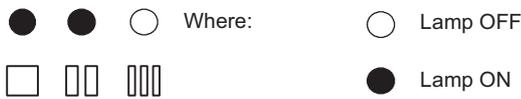

Figure 9.7
- The lamps 11 should give the indication as in Figure 9.7